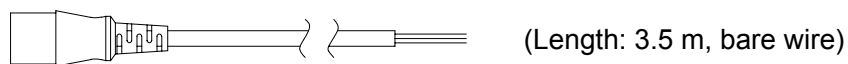

Fig.7-8 AC Power cord for 200V
6. When using 200 VAC power supply, use optional AC power cord 200 V (Fig.7-8: 0311-5112).